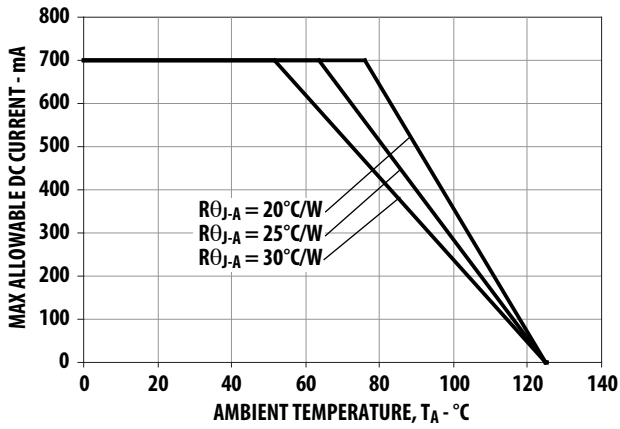
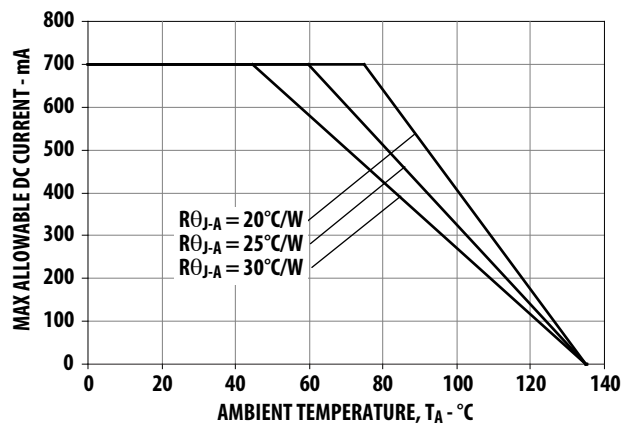

Figure 10. Maximum Forward Current vs. Ambient Temperature. Derated based on TJMAX = 125°C, RθJA = 20°C/W, 25°C/W and 30°C/W.
Figure 20. Maximum Forward Current vs. Ambient Temperature.
1. Derate linearly based on Figure 10 for AllnGaP and Figure 20 for InGaN.